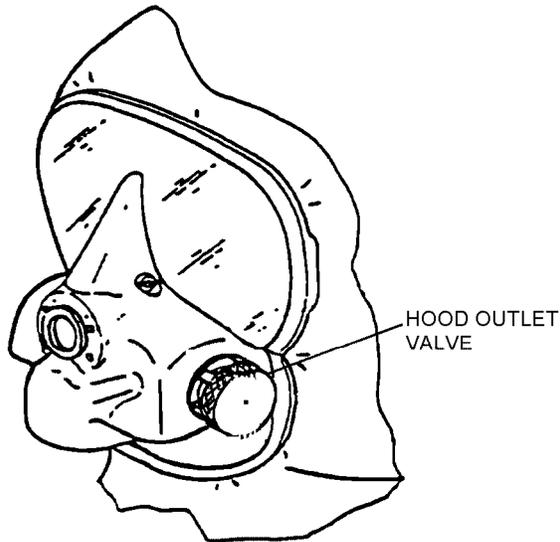

Figure 4-12. Hood Outlet Valve
**4-15. Hood Outlet Valve.** The hood outlet valve (figure 4-12) is mounted on the left side of the faceplate, below the optical area and above the mask inlet adapter on the orinasal mask. The valve consists of a stepped rubber valve, valve seat, an external slotted cover, and a manually operated shut-off disc. The hood outlet valve permits demisting air to exit the hood. The valve is normally in the open position. The valve is closed if the demisting air is lost, i.e. pusher pan failure, in order to prevent entry of contaminants.